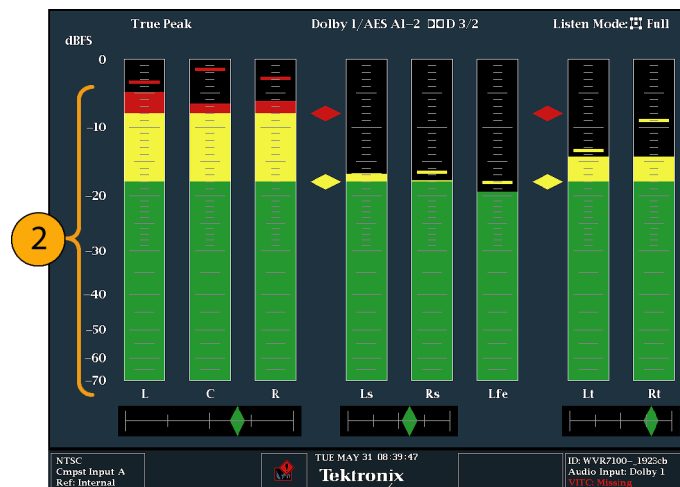

Figure 82: Audio levels
2. Check the level meter bars for current audio levels, which are displayed according to the selected meter ballistics. Each bar displays three colors. (See Figure 82.)